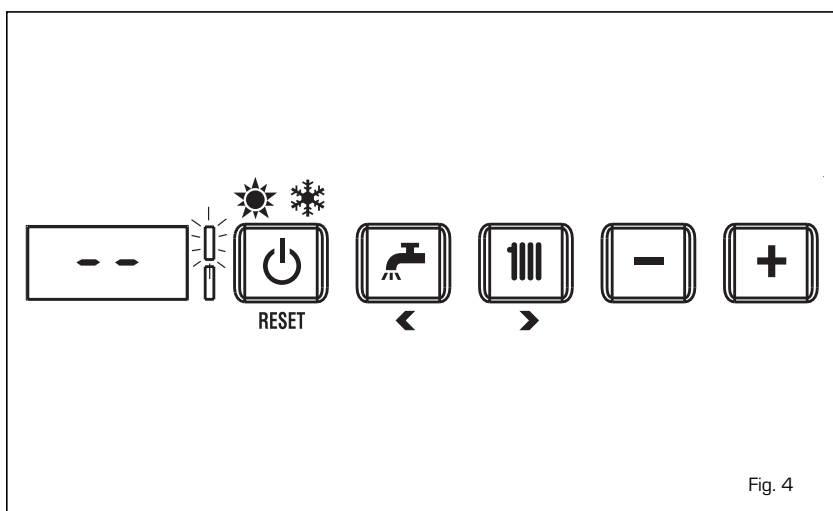

Fig. 4
**TO SWITCH OFF THE BOILER (fig. 4)**